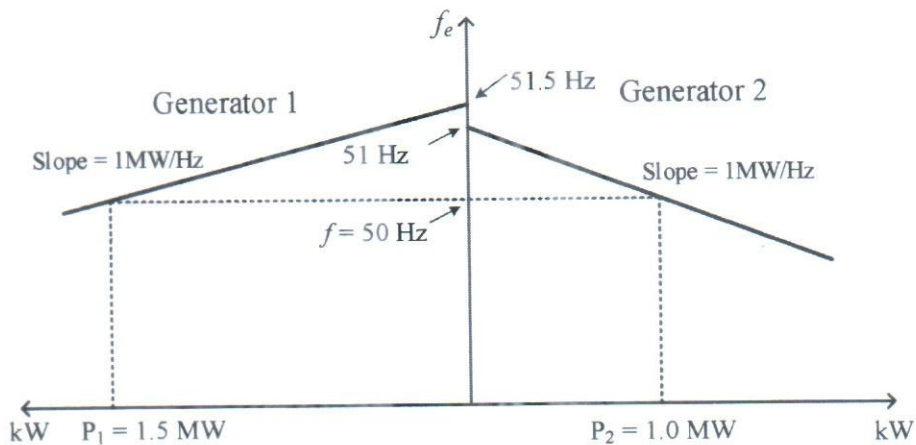

Fig. 5.b
b) Suppose two generators of IUT: generator 1 and generator 2 are operating in parallel under a certain electrical load (both real load and reactive load are present). Consider a situation when generator 1 has a no-load frequency of 51.5 Hz and a slope S_{p1} of 1 MW/Hz and generator 2 has a no-load frequency of 51.0 Hz and a slope S_{p2} of 1 MW/Hz. The two generators are supplying a real load totaling 2.5 MW at 0.8 pf lagging. The resulting system house diagram is shown in Fig. 5.b.